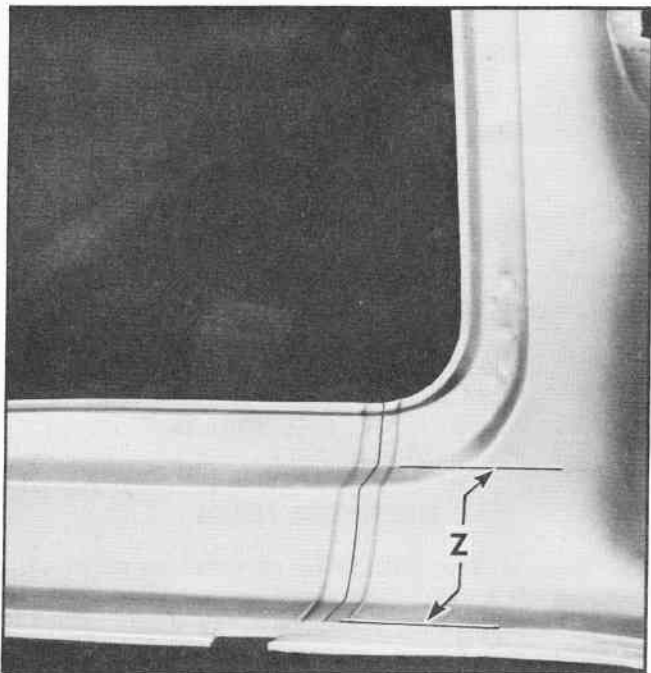

Fig. 2 Rear End Panel Weld
7. If the rear end panel to rear quarter side outer panel extension weld joint is affected, remove the solder fill and braze the joint as shown by distance "Z" in Fig. 2.